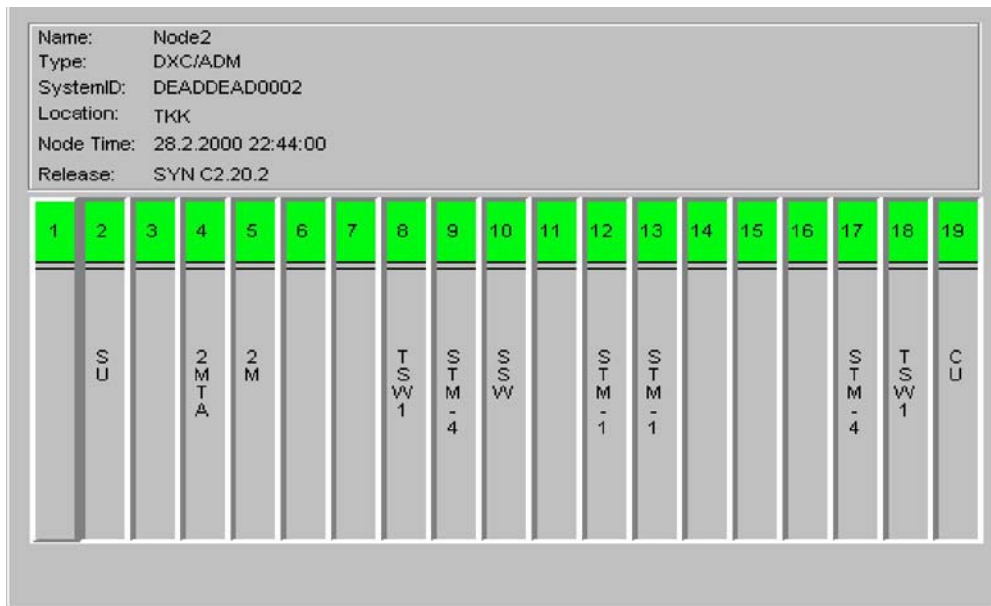

Figure 7 The DCS plug-in units to be configured and their position in different slots of the shelf.
Step 1: In the Manage Node window press the **Manage** button. After short delay the window of Figure 7 appears. It shows the plug-in units that are managed and their position in different slots of the shelf. A green box indicates that the plug-in unit is in good working condition.